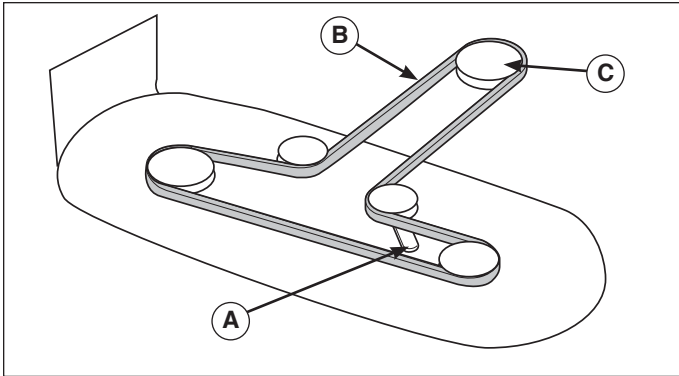

Figure 18. Remove and Install Mower Belt
3. Use the mower belt lever (A, Figure 18) to release belt tension. Remove the mower belt (B) from engine pulley (C).
7. Use the mower belt lever (A, Figure 18) to release belt tension, and install the mower belt (B) as shown.